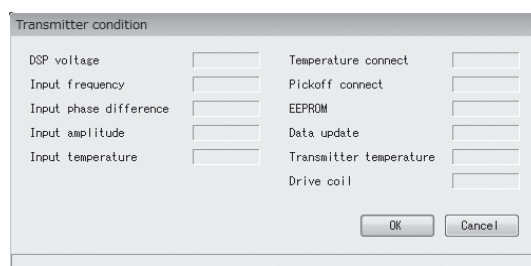

Fig.105
- ① Click "Diagnosis/Service (T)" > "Test/Status" > "Self diagnosis" > "Transmitter condition" in the menu.
- ② When the "OK" button is pressed after the process control loop is switched to manual according to the caution screen, the following window (Figure 105) appears. This window is used to check the internal state of the transmitter.